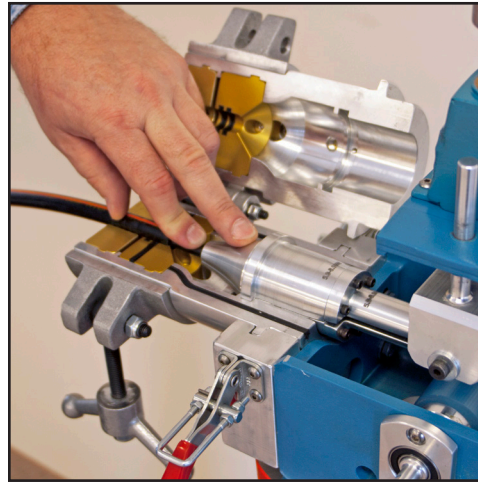

Figure 8. Install Top Venturi
7. Install top venturi. (See figure 8)